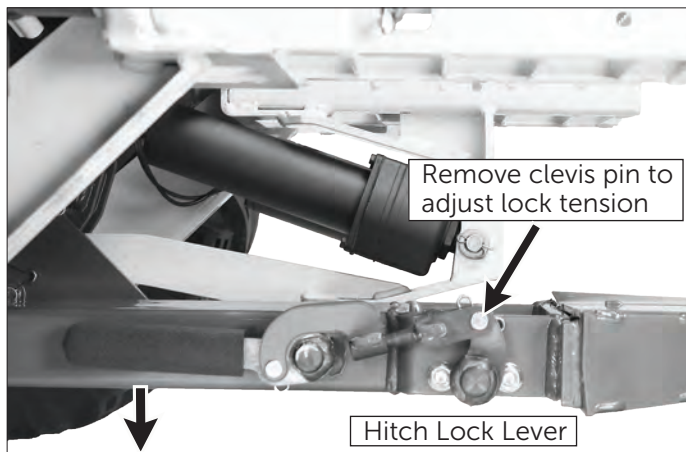

Figure 3.5 Hitch Lock Lever in "Locked" Position
- On the **H19** implement hitch, pull hitch lock lever fully to the rear and down to the **LOCKED** position (figure 3.5).